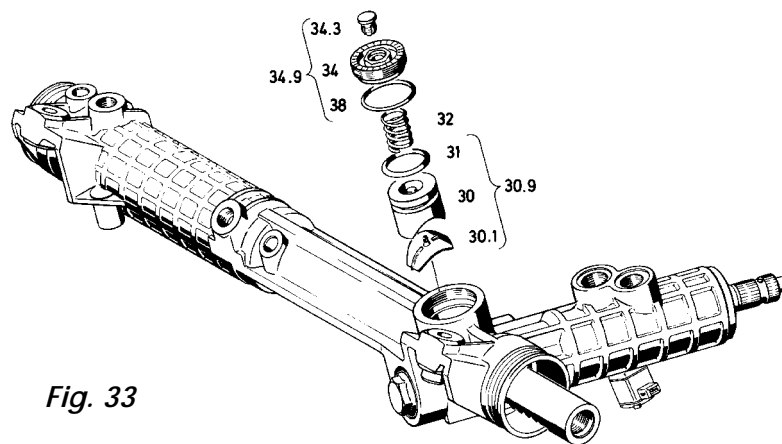

Fig. 33
Insert the O-ring (31) and the insert foil (30.1) into the yoke (30) (**Fig. 33**).